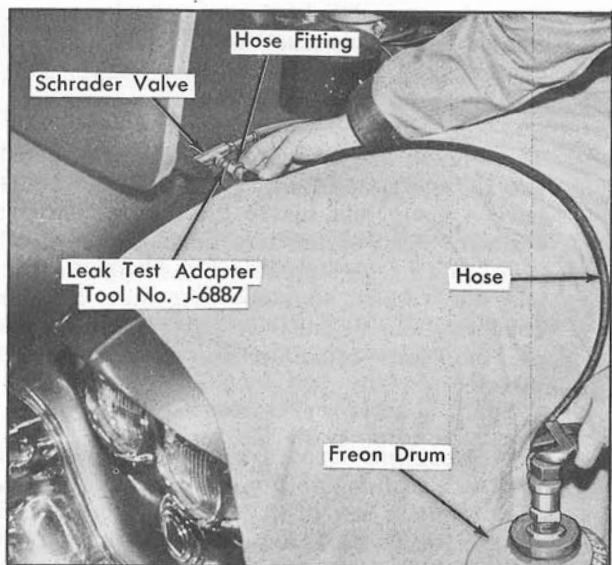

Fig. 4-4 Adding Freon to Suspension System
4. Install Leak Test Adapter Tool No. J-6887 on Schrader valve and connect hose fitting on Freon Drum to Leak Test Adapter Tool, Fig. 4-4.